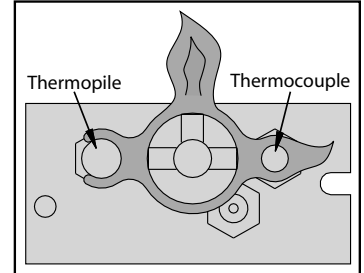

Figure 3. Pilot flame.
1. Turn off the gas to the fireplace. **If not recently done, remove the glass and let the unit air out for at least five (5) minutes to clear out any gas.** Turn on gas to the heater. Leak test all joints with soapy water. **NEVER USE AN OPEN FLAME FOR LEAK TESTING.**
2. Start the pilot by pressing the gas control knob and turning it to PILOT. While holding the gas control knob in, press the piezo ignitor several times until the pilot light starts. Hold the gas control knob in for thirty (30) seconds. Check that the pilot has fully engulfed the thermocouple assembly (see Figure 3).